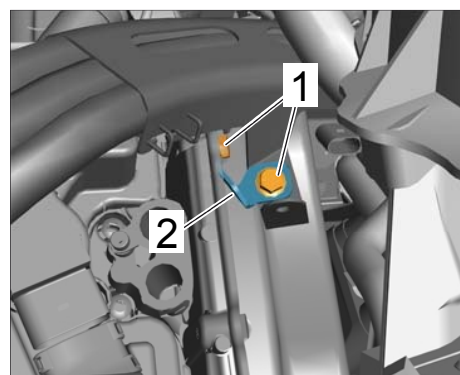

Figure 24
- 5.32 Position connecting piece of holder for the high-voltage wires $\Rightarrow$ *Figure 24 -item 2-* on the cylinder head cover and secure with the fastening screws $\Rightarrow$ *Figure 24 -item 1-*. **Tightening torque 10 Nm (7.5 ftlb.)**